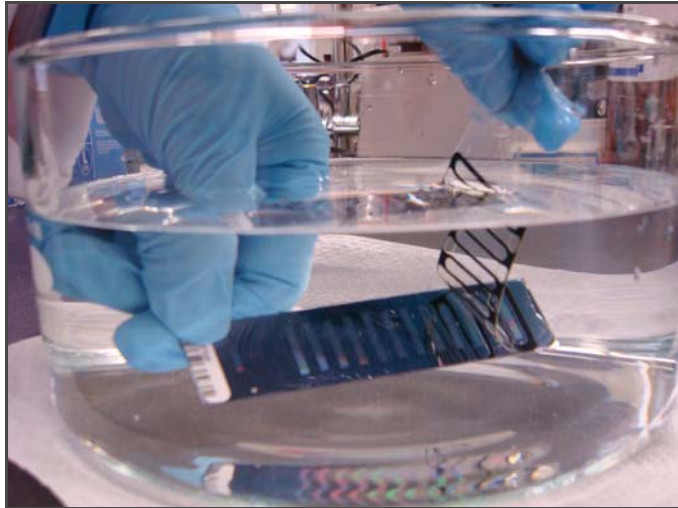

Figure 30 Removing the Coverseal
3. Using powder-free gloved hands, remove the coverseal from the first BeadChip under the buffer. This may require significant force, due to the strength of the adhesive. Ensure that the entire BeadChip remains submerged during removal (Figure 30).